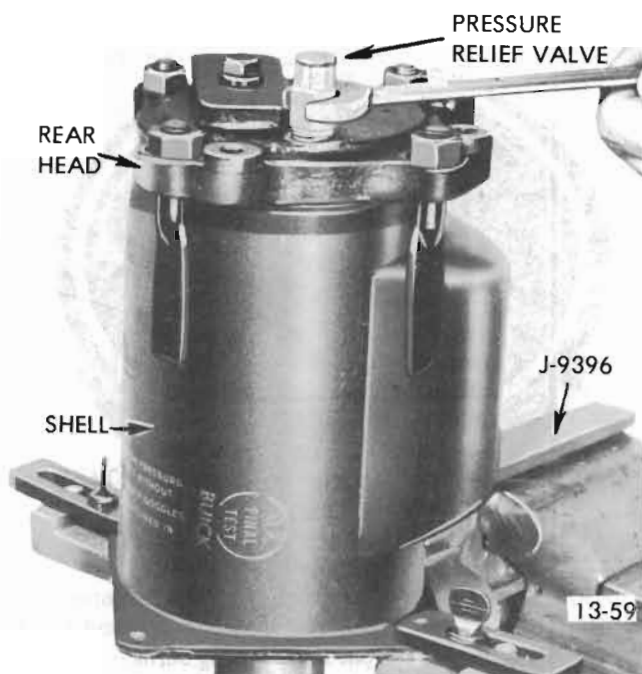

Figure 13-34 Compressor Installed in Holding Fixture
5. Reinstall compressor in holding fixture (J-9396) positioned as shown in Figure 13-34.